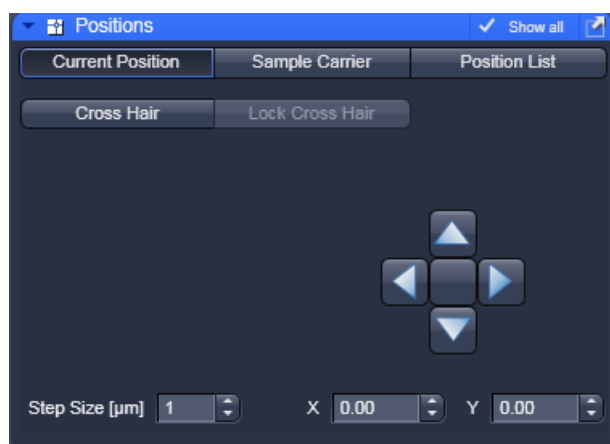

Fig. 318 Current Positions panel
- Click on the **Positions** tool tab to open the **Positions** tool (Fig. 318). Click again to close the tool.
- Click on the **Current Position** tab to open the **Current Position** panel (Fig. 318).